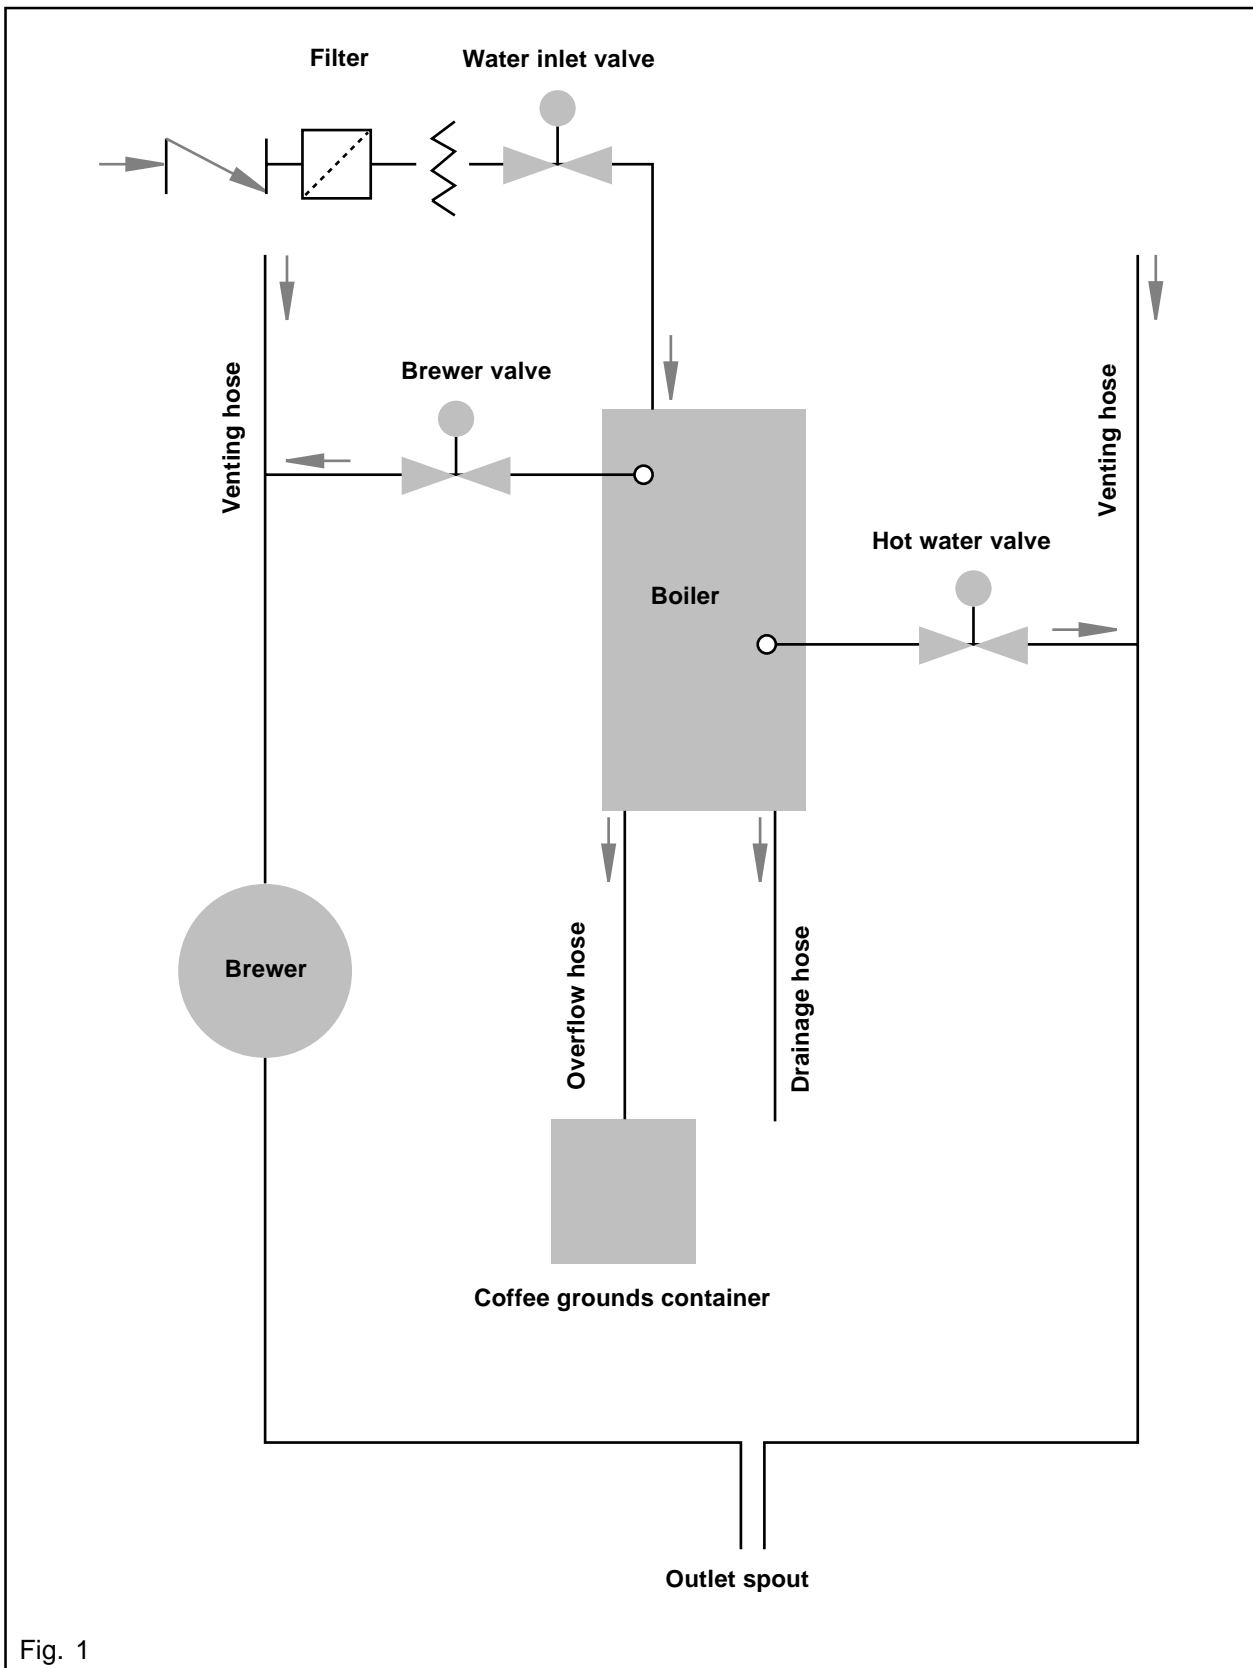

Fig. 1
- If the water level sensor (1, Fig. 1) does not detect any water the water inlet valve is opened until the water level sensor detects that the boiler is filled. A short time after that (can be programmed) the water inlet valve closes. The microprocessor monitors the sensors so that possible leaks in the boiler can be detected. When the microprocessor detects a leak the error message "E1" is displayed.